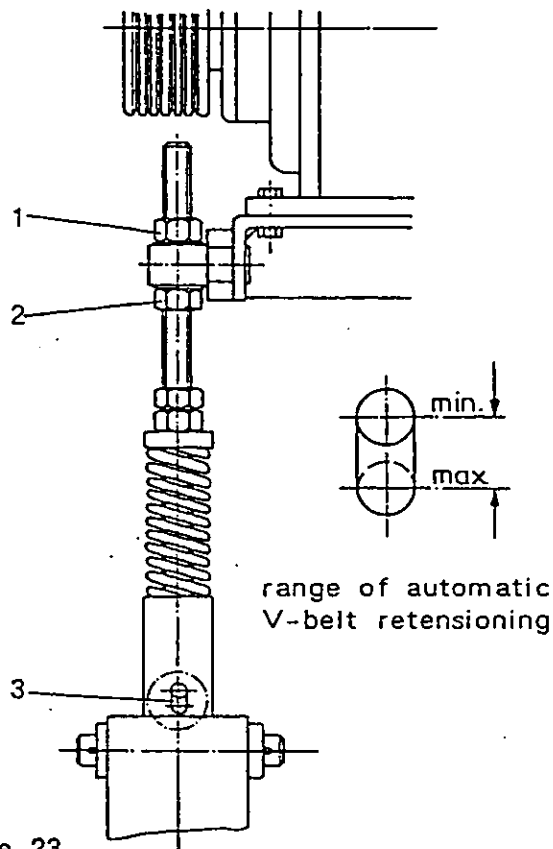

Figure 23
- Loosen hex nut (1).
- Retension the V-belt by turning the hex nut (2) until the pin (3) is all the way down.
- Retighten hex nut (1).
- Turn adjusting hex nut (2, Figure 23) downwards.